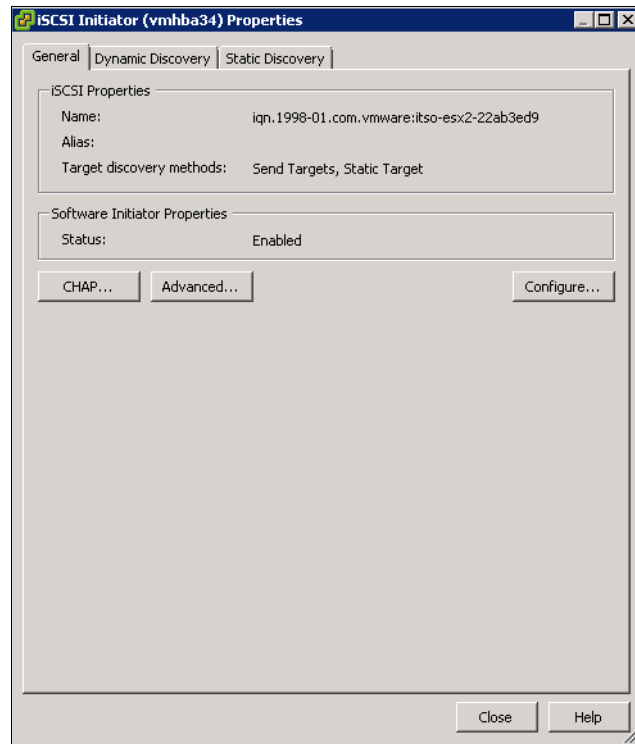

Figure 4-16 VMware iSCSI Initiator enabled
10. The VMware ESX iSCSI initiator is now successfully enabled (Figure 4-16). Note the initiator name for later use.